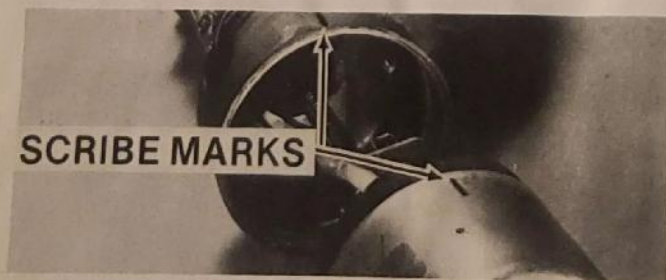

Fig. 41. Armature Removal
3. Scribe motor frame and housing (fig. 41). Remove tie bolts. Pull housing and armature free from frame. Feed excess wire into housing. Disengage armature shaft from plastic gear.